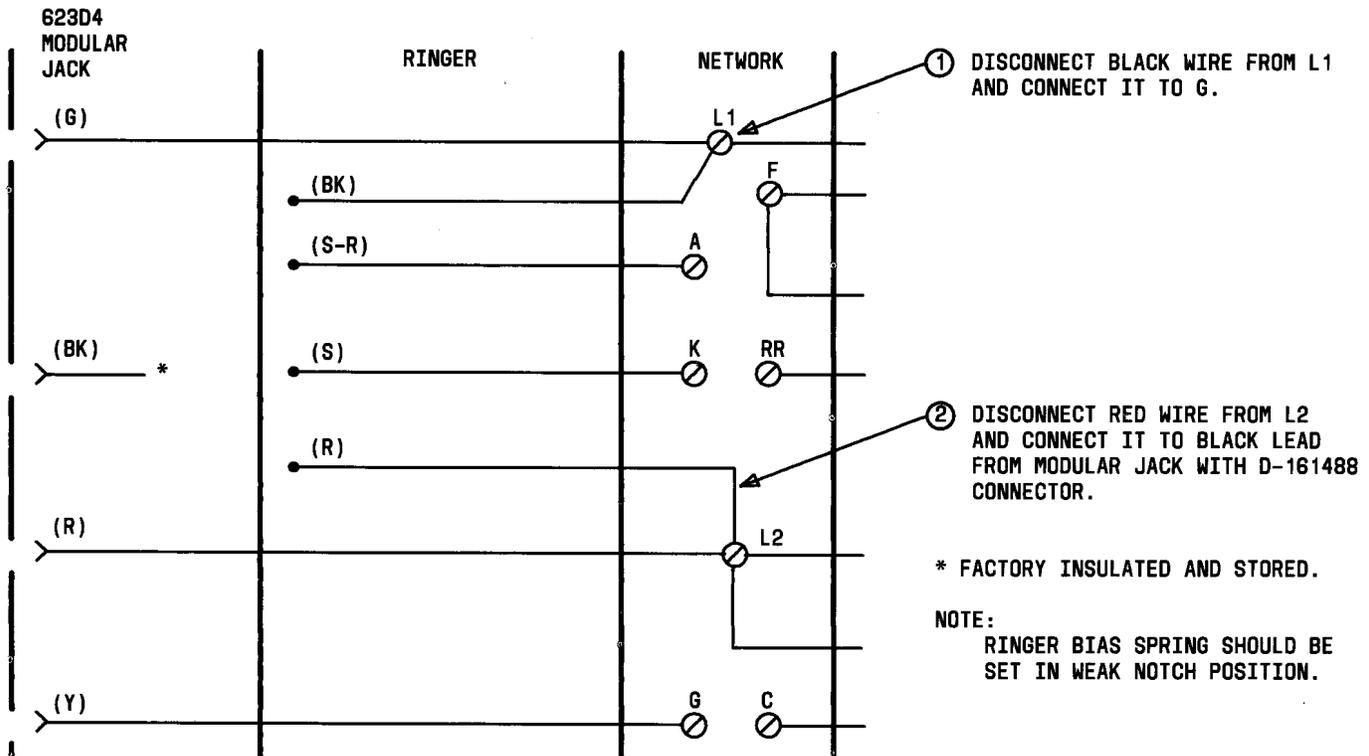

Fig. 4—Modification of 500DM Telephone Set
2.06 As shown in Fig. 4 and 5, each telephone must be modified to function properly with the control unit. It is also recommended that both ends of the handset cords and the telephone set end of the mounting cords be modified as shown
Before operating the Teletrainer, be sure that the two telephones have been modified as specified in Fig. 4 and 5.